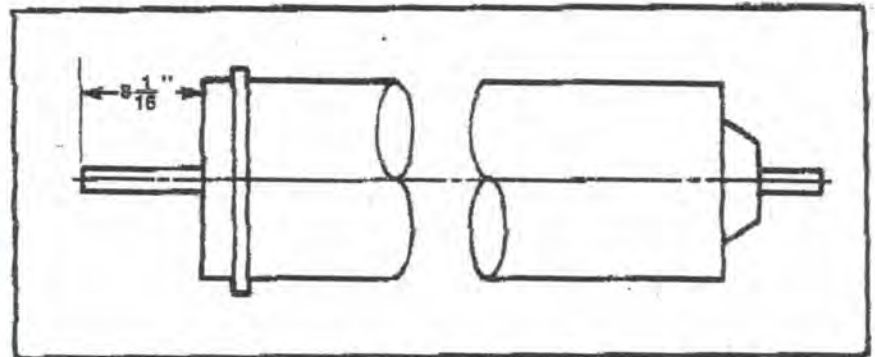

FIGURE 3 - Shaft Location
10. Loosen (3) Set screws on cylinder intake cone casting and remove conveyor and trough.
12. Install conveyor and trough into new cylinder setting shaft to dimension specified on instruction sheet, tighten (3) set screws and lock nuts, cylinder is now ready to put back into machine. (Instruction Sheet - Page 5, Figure 3.)
The placement of the shafts in the cylinder is critical. Position the plain end of the shaft exactly $8\frac{1}{16}$ " from ends of cylinder as shown in Figure 3. Tighten all set screws securely.